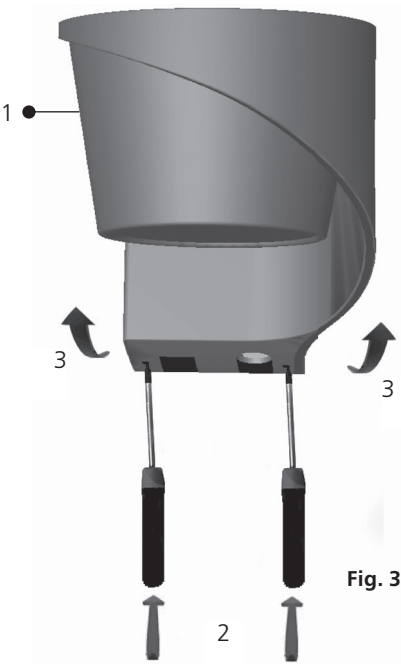

Fig. 3
1. Loosen the front cover and remove it (see fig. 3).